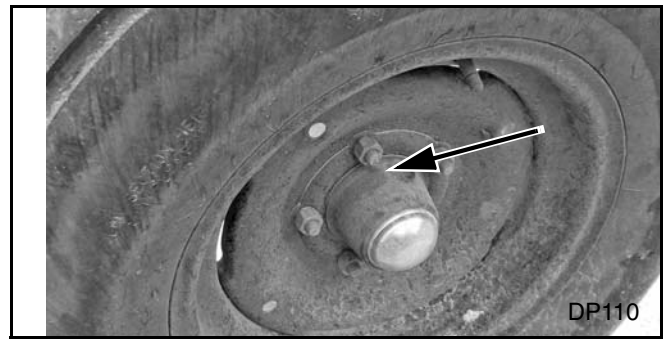

Figure 26. Wheel Bearings
2. Repack wheel bearings. See Figure 26.